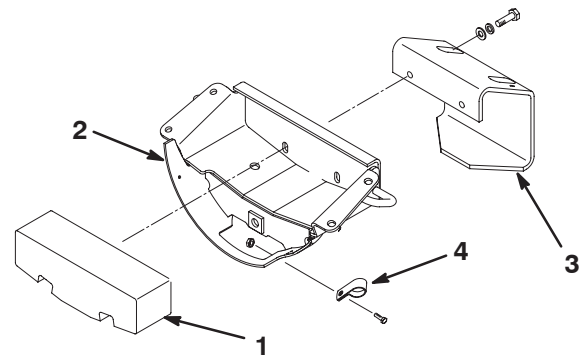

**Figure 3**
1. Remove cotter pins and castle nuts from ball joint ends of tie rod. Insert ball joint ends into rear hole of each axle steering arm. Insert ball joints from bottom of each steering arm (Fig. 3).